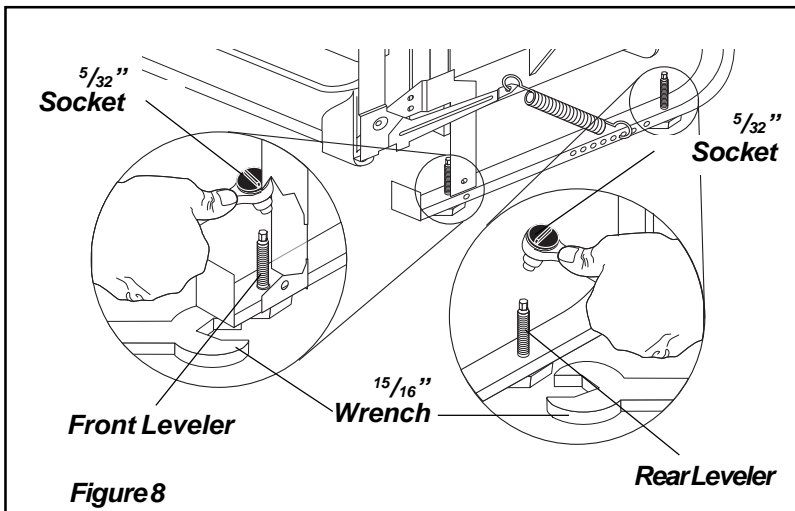

Figure 8
3. Loosen the front and rear leveling legs by turning counterclockwise. Refer to chart for number of turns. See Figure 8. Front levelers should allow 1/4" below underside of countertop.